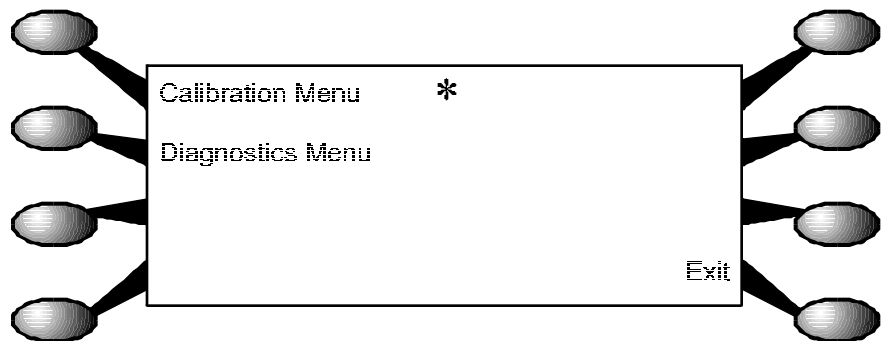
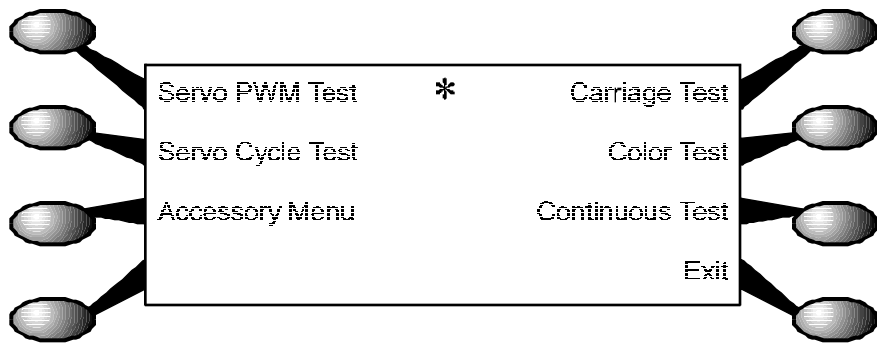

Figure 3-23. Service Menu.
Figure 3-27. Diagnostics Menu.
2. Select the "Service Menu" from the Utility Menu. This brings up the Service Menu as shown in Figure 3-23.
The Diagnostics Menu is located in the Service Menu (shown in Figure 3-23) and is seen in Figure 3-27.